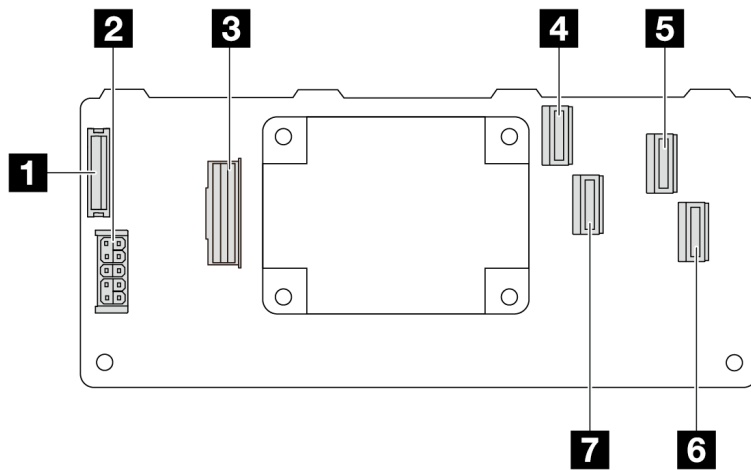

Figure 221. A Gen 3 16i CFF RAID adapter (four port connectors)
- Figure 221 “A Gen 3 16i CFF RAID adapter \(four port connectors\)” on page 256